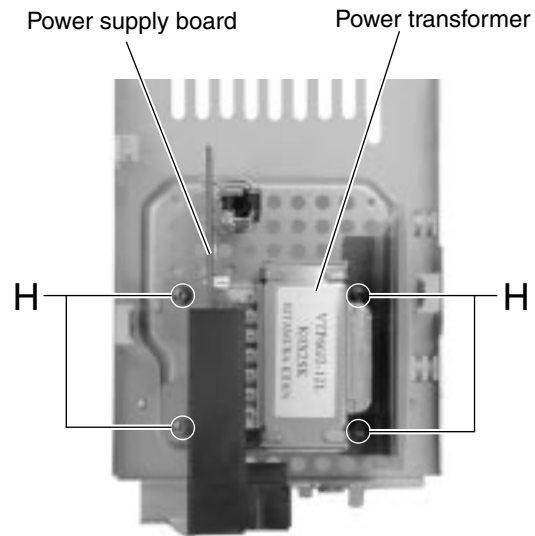

Fig. 15
■ Removing the power transformer and power supply board (See Fig. 15 and 16)